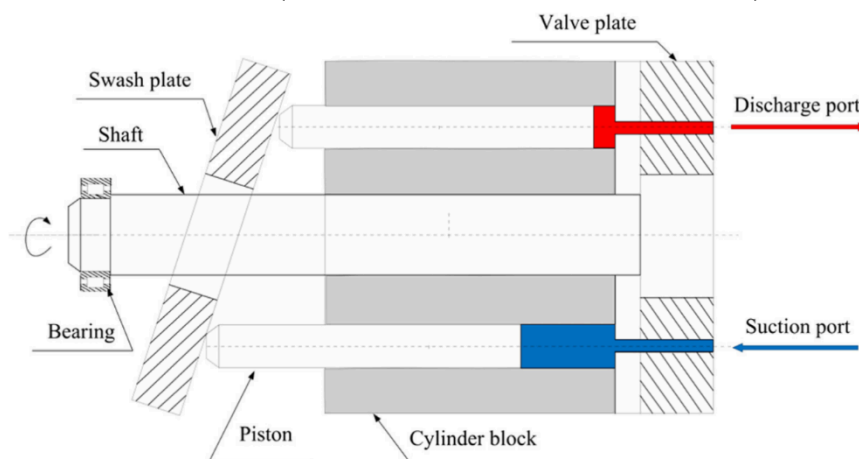

Fig.1 Axial piston pump
- A spring pushes the pistons against a stationary swash plate, which is set at an angle to the cylinder. As shown in Fig. 1